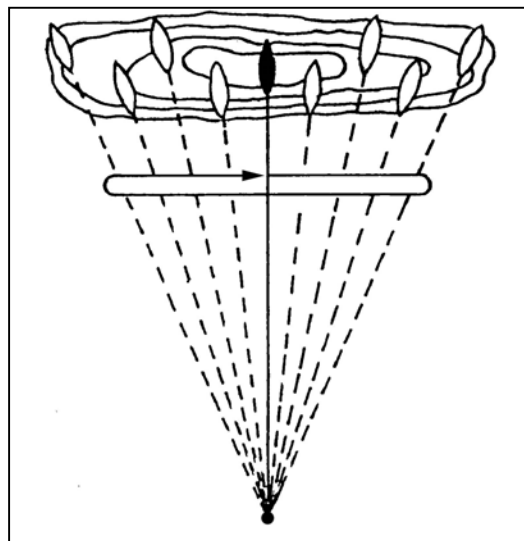

Figure 5-11. Engagement of area target.
(2) *Area Target*. When engaging an area target, the gunner fires in the center of mass, then traverses and searches to either flank (Figure 5-11, page 5-8). Upon reaching the flank, he reverses direction and traverses and searches in the opposite direction. A leader may indicate the width and depth of the target.